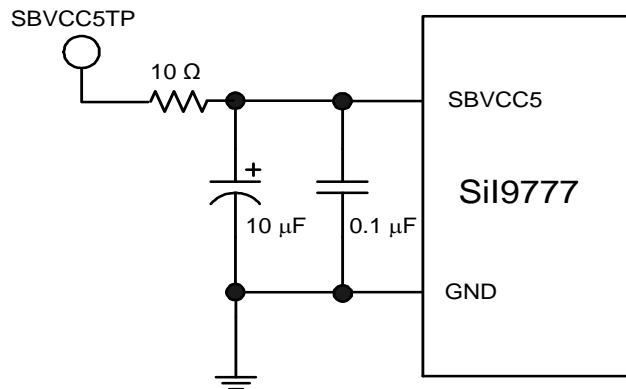

Figure 4.1. Test Point SBVCC5TP for SBVCC5 Measurement
1. SBVCC5 Voltage is measured at SBVCC5TP as shown in Figure 4.1.